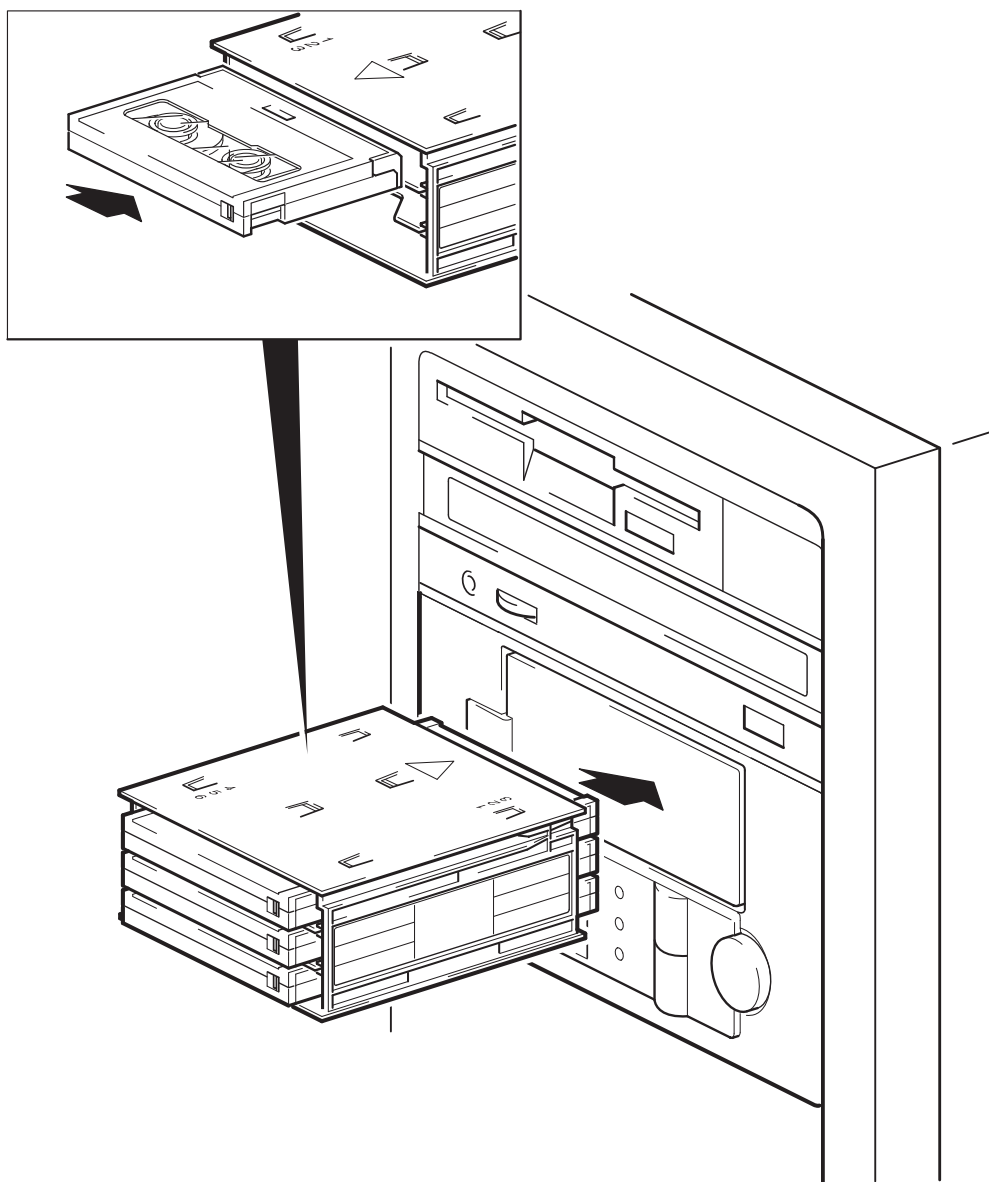

Figure 11: loading the autoloader
- 2 Insert the magazine through the door in the front of the autoloader. Make sure that the large arrow is uppermost and pointing towards the autoloader, as shown in figure 11.